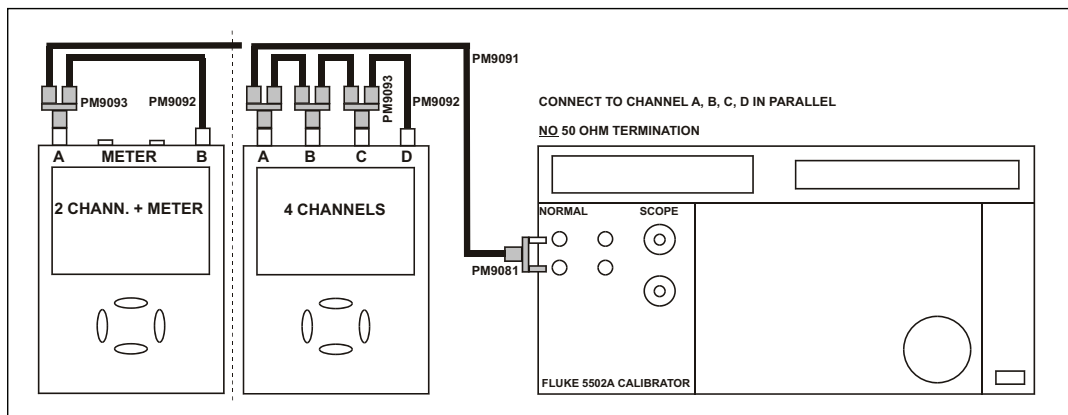

Figure 5-16. Test Tool Input ABCD to 5502A Normal Output
2. Connect the Test Tool to the 5502A as shown in Figure 5-16.